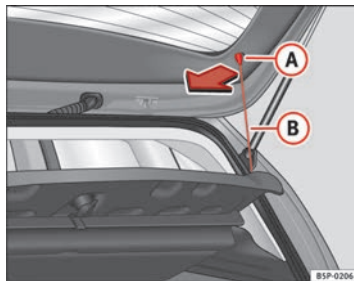

Fig. 123 Rear shelf
- Unhook the loops ⇒ Fig. 123 B from housings A.